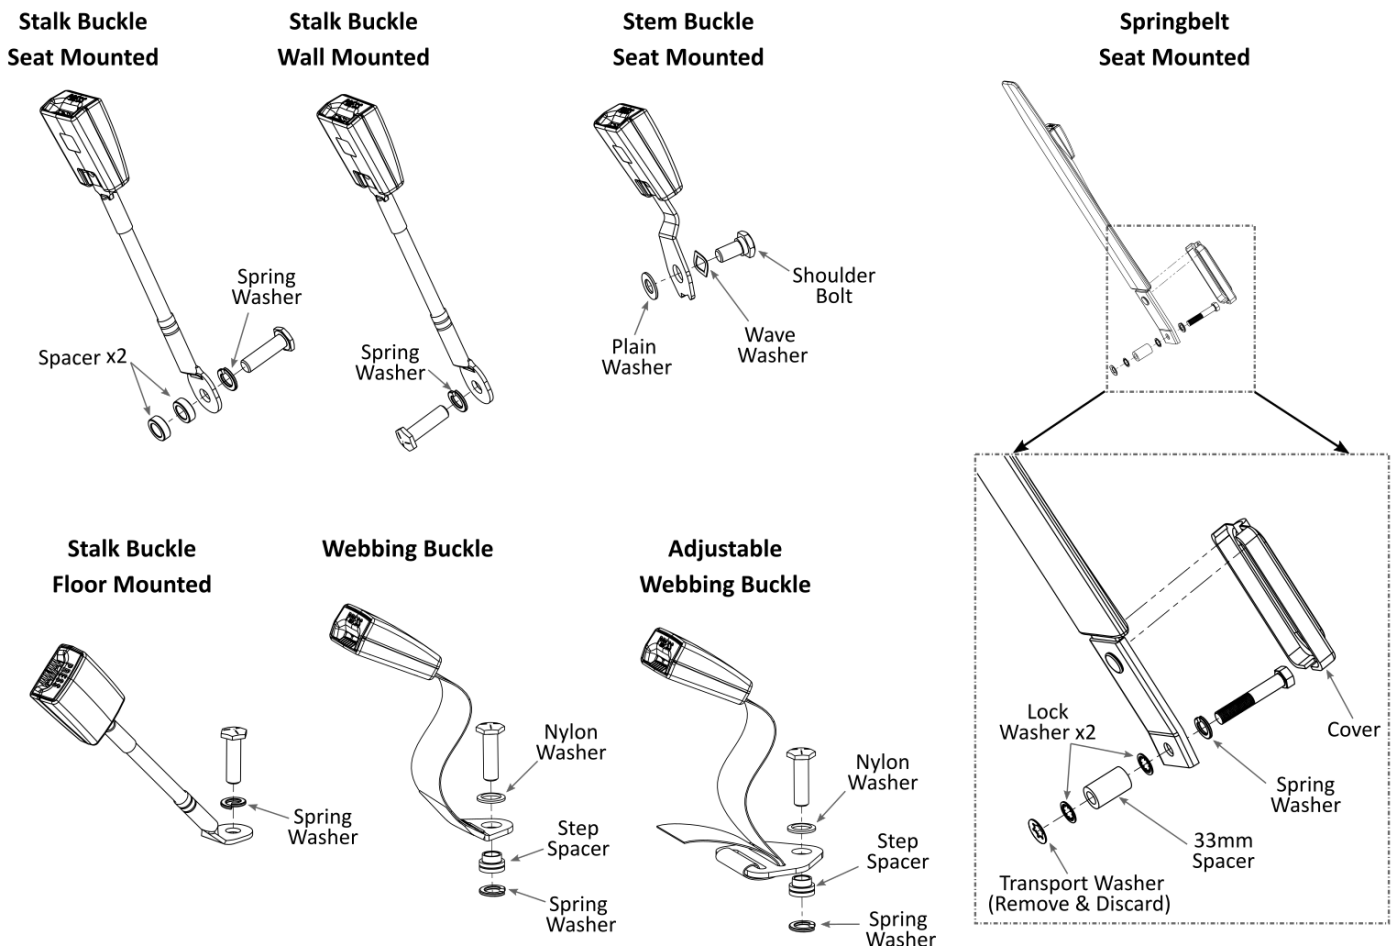
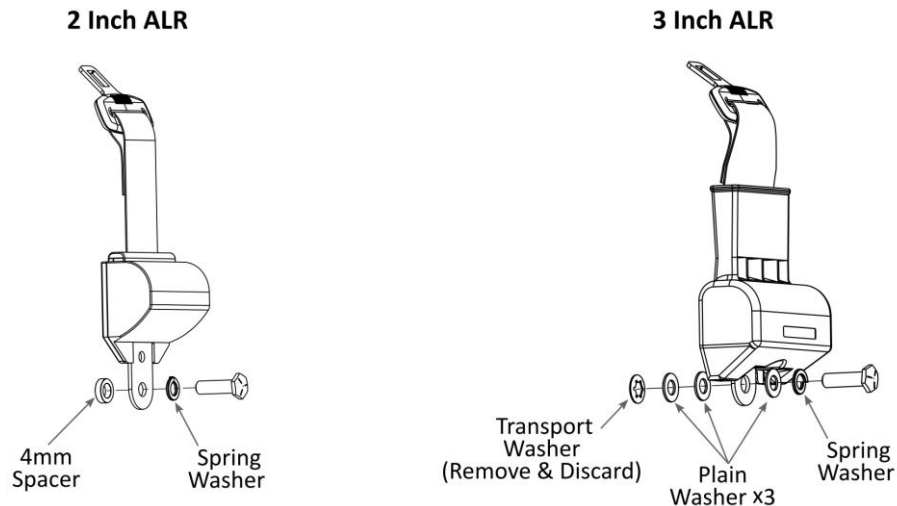

Figure 1
Figure 2
4. For Springbelt only, clip on the plastic bolt cover per Figure 1 below.
1. For 3 Inch ALR kits, remove and discard the fibre transport washer. For 2 Inch ALR kits, assemble the fittings Figure 2 below.
3. If your seat belt warning light/alarm does not come on, then a NO (Normally Open) circuit is required (Figure 1). If your seat belt warning light/alarm comes on, then a NC (Normally Closed) circuit is required (Figure 2).